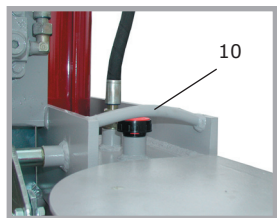

Abb. 10
Alternatively lift the splitter using a crane or any equivalent lifting equipment hooking the special lift bow (10) as shown on figure 10.